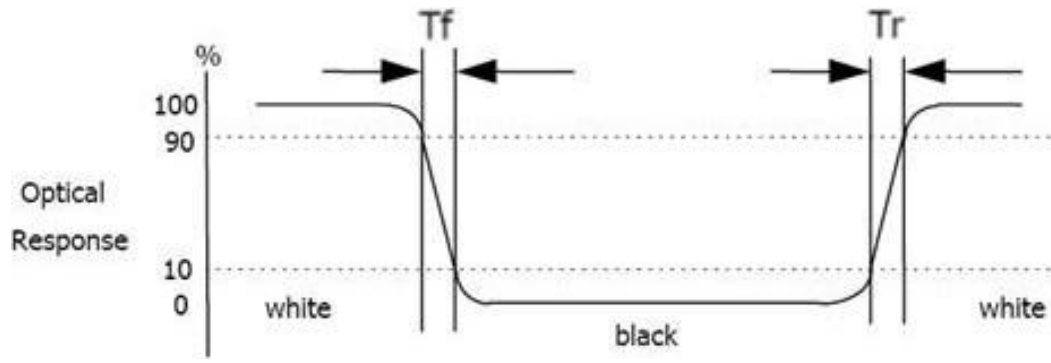

Figure 7. Response Time Testing
5. The electro-optical response time measurements shall be made as FIG. 7 by switching the "data" input signal ON and OFF.